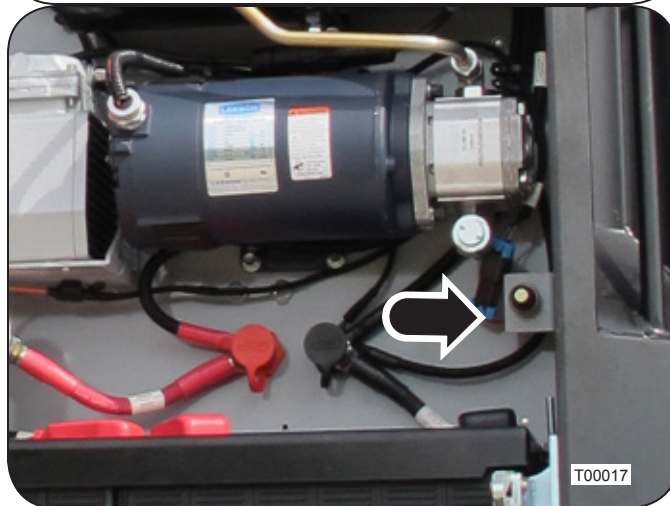

Figure 8: Fill Pump Switch
The hydraulic fill pump is located next to the batteries inside the electrical compartment behind the cab. The fill pump switch is located in this compartment (see figure 8) The keyswitch needs to be in the on position for the fill pump to work.
3) Turn the keyswitch to the on position then press and hold the fill pump actuation button located near the fill pump on the left side of the engine. See Figure 8.